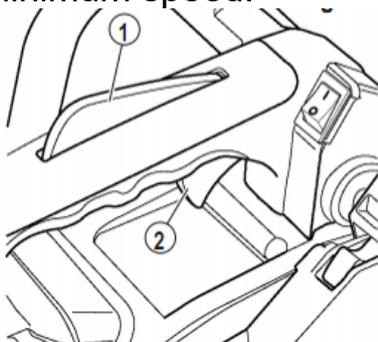

Fig.27
9) Using the palm of your hand, press the throttle trigger lock-out (fig.27 part. 1) and then press the throttle trigger (fig. 27 part 2); this way "THE THROTTLE ADVANCEMENT" will disengage and the engine will run at minimum speed.
- 2) Set the on-off switch to “O” position (off position) to stop the engine. (Fig.27)